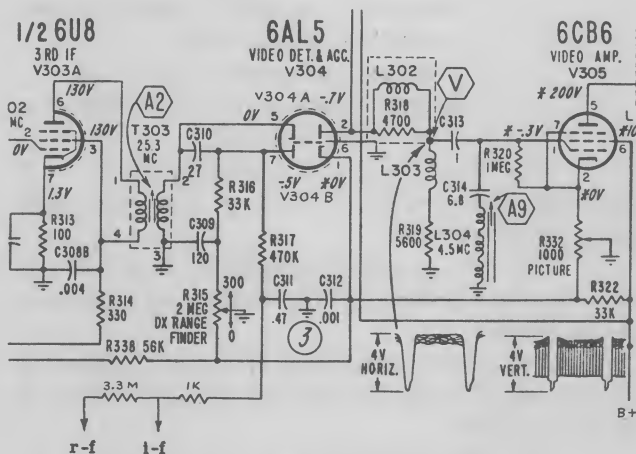

Fig. 6-12. AGC: Admiral 19K.
a. *Delayed AGC.* Figure 6-12 is a circuit diagram of the agc system used in Admiral Model 19K1. V304B is one half of a 6AL5 used as the agc detector. The negative agc voltage is taken from the junction of R317 and C311 in the plate circuit of this diode. This negative voltage is then coupled as bias through a 1 K isolating resistor to the grids of the first and second i-f amplifiers, and through a 3.3 M resistor to the grid of the first r-f amplifier. The amplitude of this bias voltage depends directly on the strength of the incoming video signal. Thus, large signals give rise to a high negative bias, reducing over-all receiver gain, and vice versa.
(1) *Delayed agc.* Refer to Fig. 6-12. This circuit is characterized by the use of an agc detector (V304B, pins No. 1 and No. 7) to which is fed the video i-f signal. The detector is biased (positive d-c delay voltage at junction of R322 and R332 is fed to cathode, pin No. 1 of V304) so that it will not conduct on weak signals. On strong signals, a negative d-c voltage proportional to the peak of the sync pulses appears in the plate load of the detector, and after adequate filtering, is applied through an isolating and decoupling network to the grids of the controlled tubes.